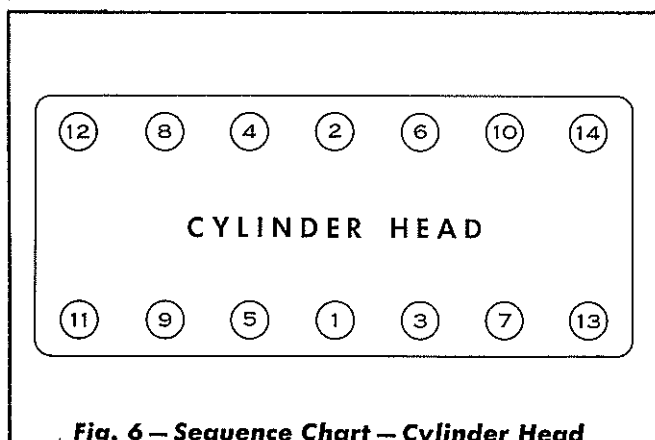

Fig. 6 — Sequence Chart — Cylinder Head Stud Nuts
2. Attach the air cleaner mounting brackets, without their gaskets, to the cylinder head. Install the cylinder head in place on the cylinder block, then remove the air cleaner mounting brackets from the cylinder head. Install and draw the cylinder head stud nuts down evenly, rotating from one nut to another. Tighten the nuts to a torque of 165 to 175 ft. lbs. by starting at the center nuts and working toward each end, tightening each nut a little at a time. Refer to Fig. 6.
6. Install a new gasket between the governor control shaft housing and cylinder head, and install the two (2) attaching capscrews. Tighten the four (4) capscrews attaching the lower end of the governor control shaft housing to the governor weight housing.